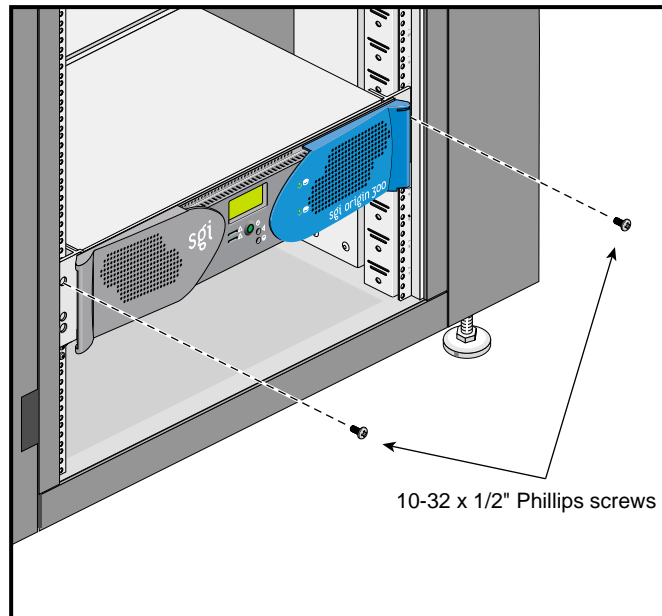

Figure 2-10 Securing the Server to the Rack
- Secure the server to the rack by inserting a 10-32 x 1/2" Phillips screw in the top hole of each chassis ear (refer to Figure 2-10).